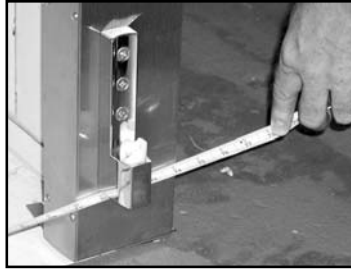

Figure 1
1. Measure Top and Bottom of Proof Box to check for proper alignment. See **Figure 1**.